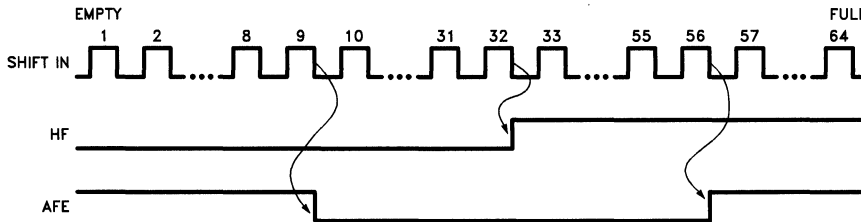

Figure 3
Two flags, Almost Full/Almost Empty (AFE) and Half Full (HF), describe how many words are stored in the FIFO. AFE is HIGH when there are eight or less, or 56 or more, words stored in the FIFO. Otherwise the AFE flag is LOW. HF is HIGH when there are 32 or more words stored in the FIFO, otherwise the HF flag is LOW. Flag transitions occur relative to the falling edges of SI and SO (Figures 3 and 4).